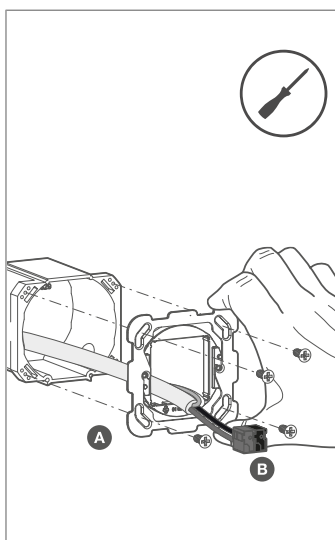

Fig. 7: Fitting the supporting ring
- Mount the supporting ring in the correct position on a wall box (Fig. 7), note the 'TOP' marking.